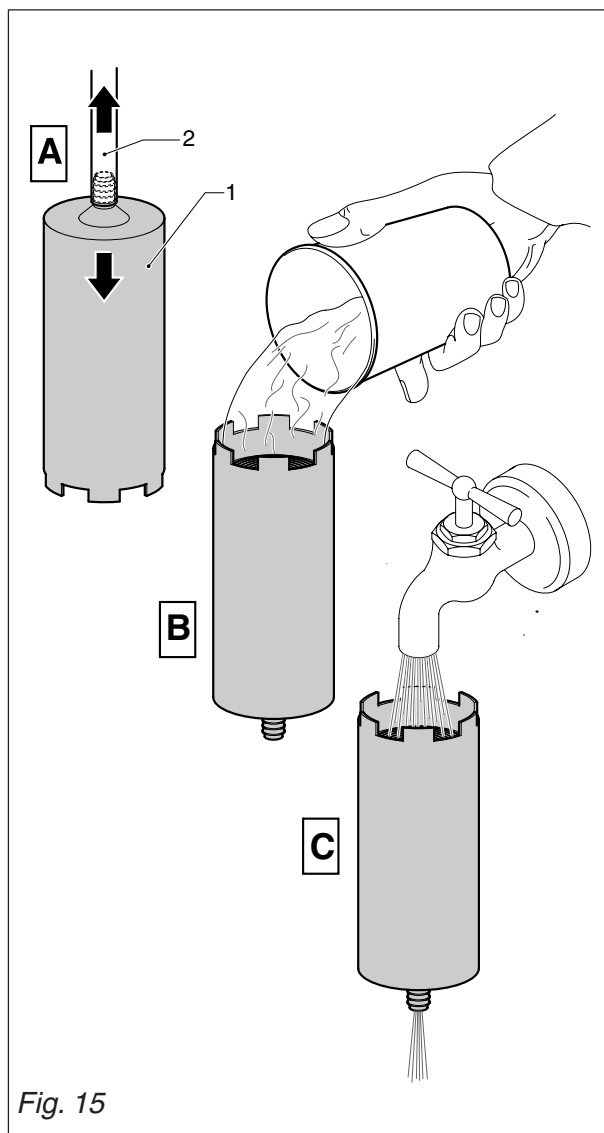

Fig. 15
- Slide the softener 1 Fig.15 off the rubber tubing 2 and turn it over.